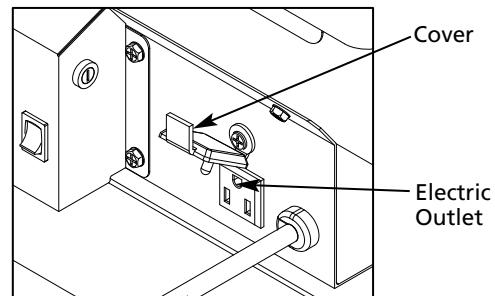

Figure 8 – Extra Electric Outlet
- Always cover electrical outlet when not in use. See Figure 8.